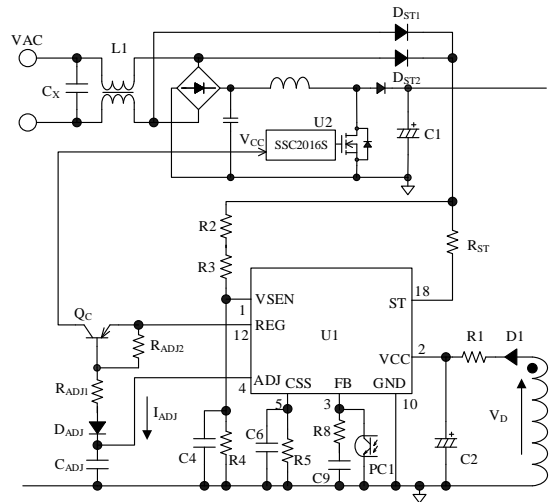
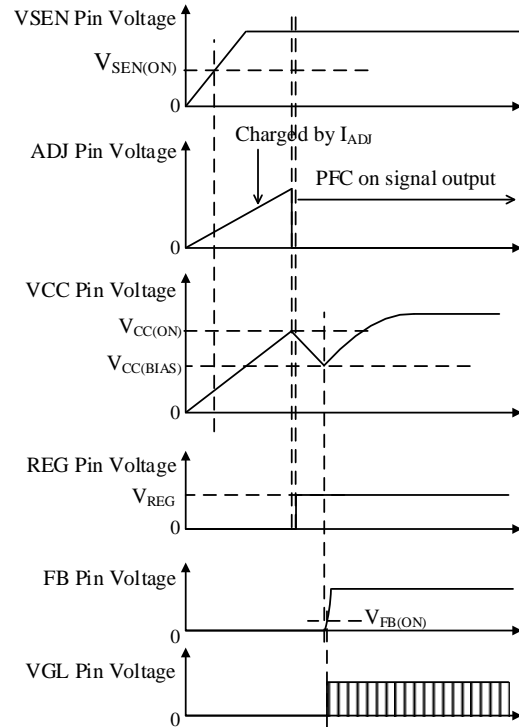

Figure 8-11. VCC Pin Peripheral Circuit
Figure 8-12. Startup Operation When PFC ON/OFF Function is Enabled
Figure 8-11 shows the VCC pin peripheral circuit. Figure 8-12 shows the startup operational waveforms.
During the IC operation, the rectified voltage from the auxiliary winding voltage,  $V_D$ , in Figure 8-11 is a power source to the VCC pin.
- The value of C2 in Figure 8-11 is increased and/or the value of R1 is reduced.